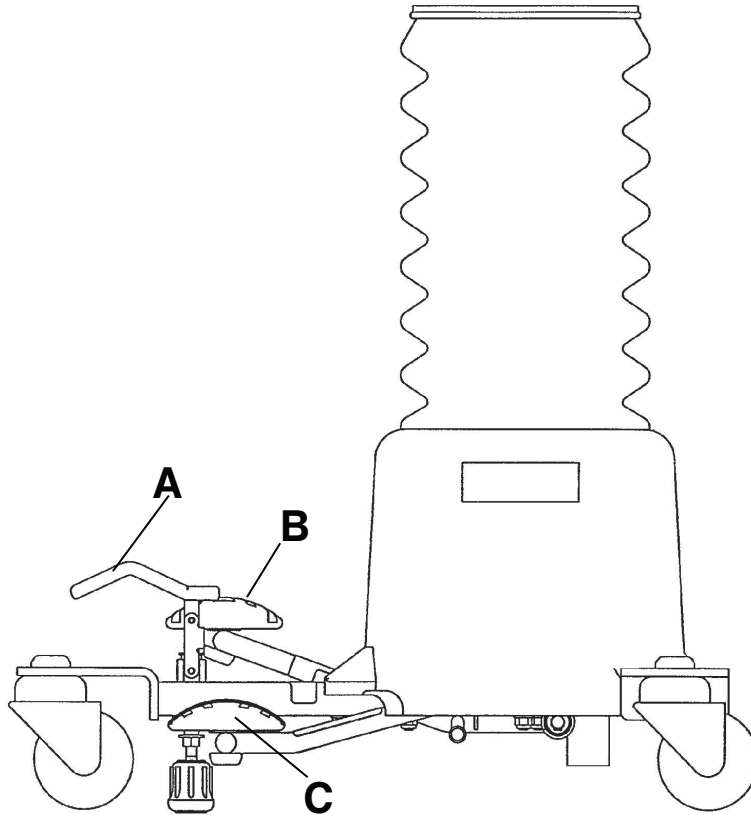

Figure 1 – Applying and releasing the brake
To apply the brake, push down on the brake pedal (A) (Figure 1). Push on the stool to make sure that the brake locks.
To raise the seat height, pump the pump pedal (B) until the desired height is reached (Figure 1).